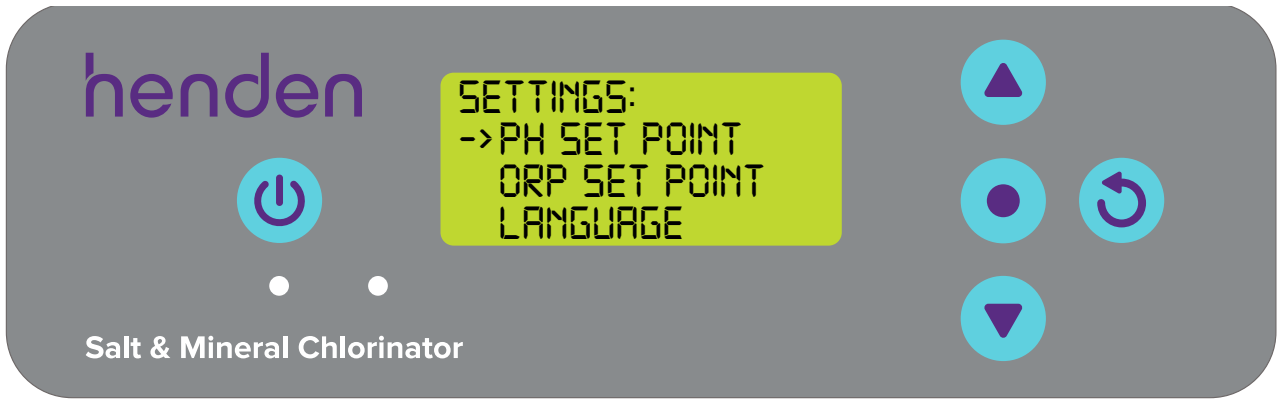

Figure 8.20
- Press the  **menu/setting select** button. This will now show the settings menu (refer figure 8.20)